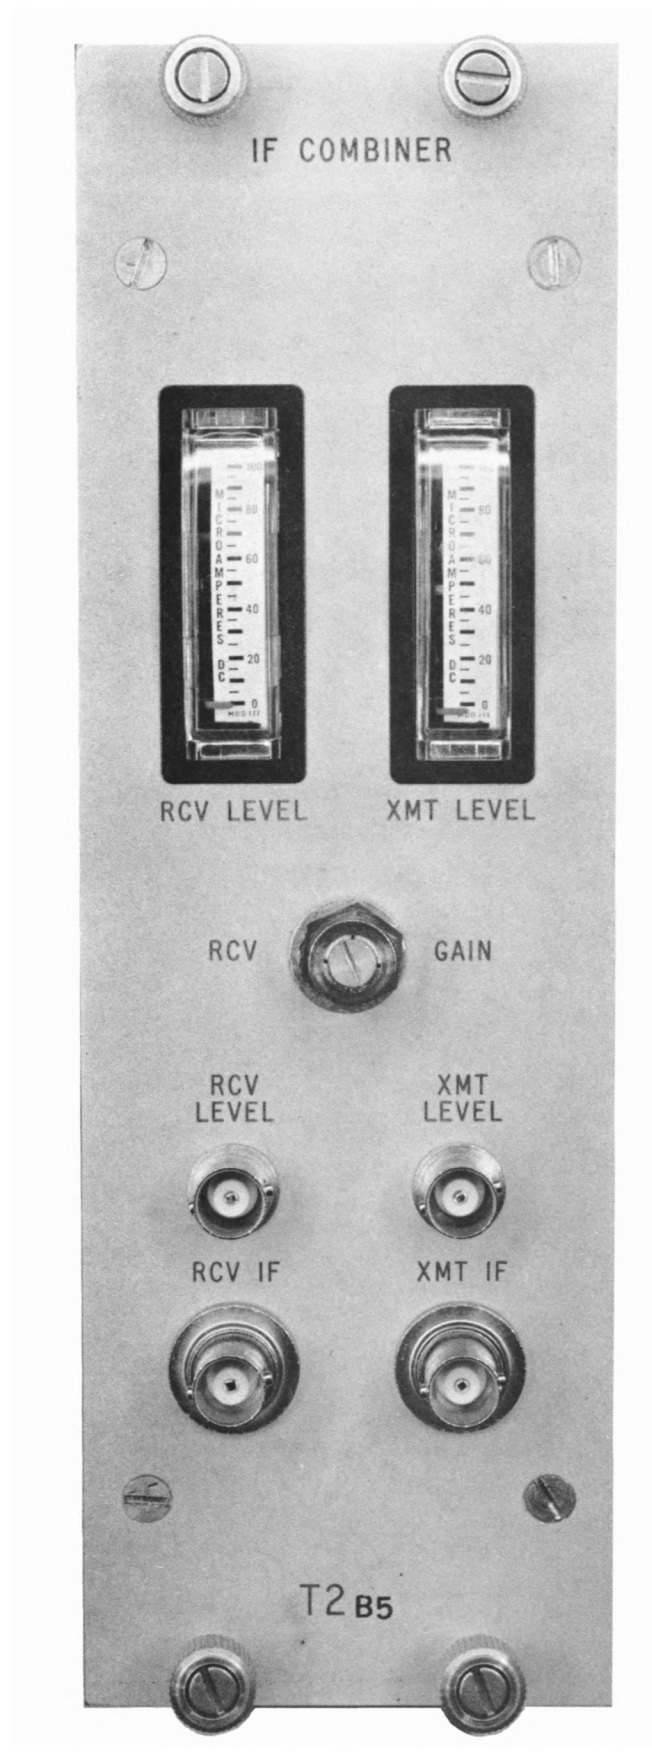

Figure 1: "Front Panel - Front View"
- 3.1 Place all components including RF components on front panel. Refer to Figures 1 and 2.